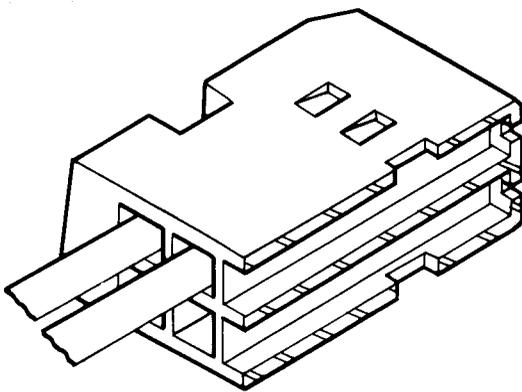

Figure 3
- (2) After connection as shown Figure 2, check the contact direction, and insert the contact as shown Figures 3 and 4. Slightly pull the cable, and check whether the contact lance position is firmly fixed to the insulation case, as shown in the area (A).